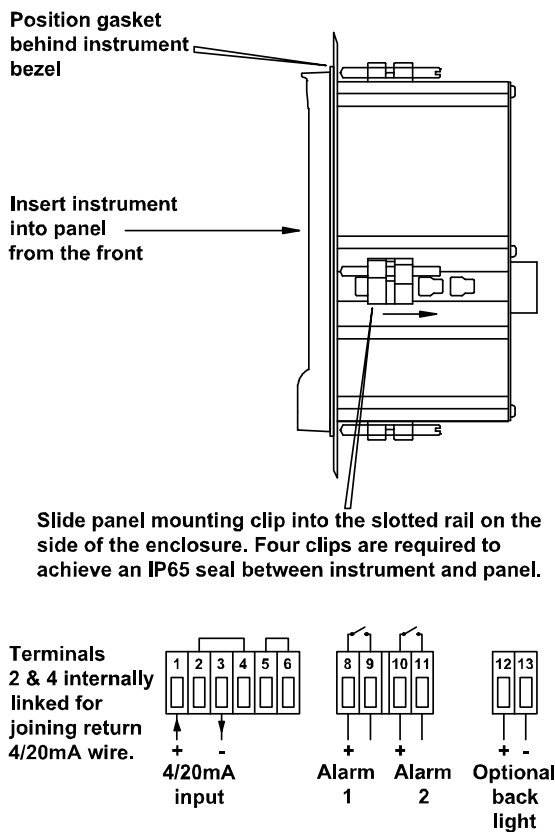

Fig 5 Installation and terminal connections
Fig 5 illustrates the instrument installation procedure.
- Fix panel mounting clips to the sides of the BA526C and tighten until the instrument is secure - see Fig 5. Recommended torque 22cNm (1.95 lbf in). **Do not over tighten.** If an IP65 seal is required between the enclosure and the instrument panel, four panel mounting clips must be used.
- Connect the panel wiring to the rear terminal block(s) as shown in Fig 5. To simplify installation the terminals are removable so that the wiring can be completed before the instrument is installed.